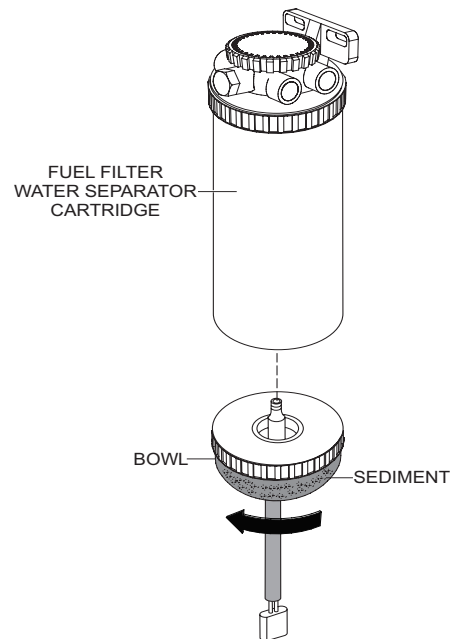

Figure 62. Sediment Bowl
1. Remove the sediment bowl from the fuel water separator cartridge as shown in Figure 62.